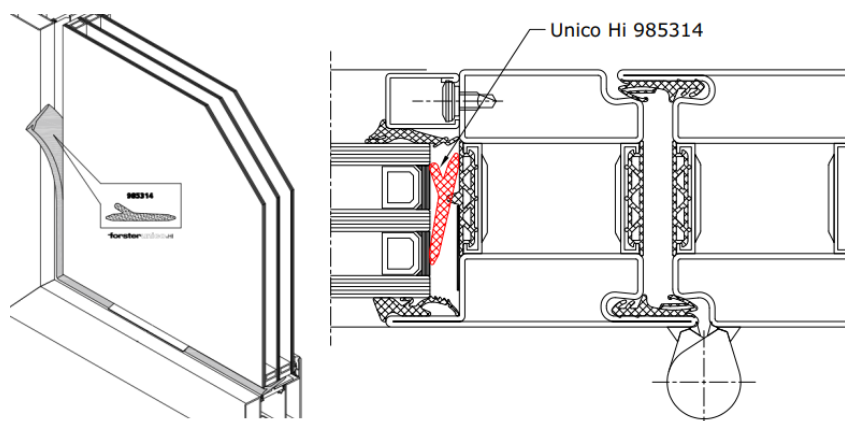

Figure 13 Unico Hi additional wedge seal
7. For higher thermal insulation system Unico Hi, add an additional wedge seal 985314 between the glass and the frame. For the glass supports, cuts must be made in the wedge (Figure 13).